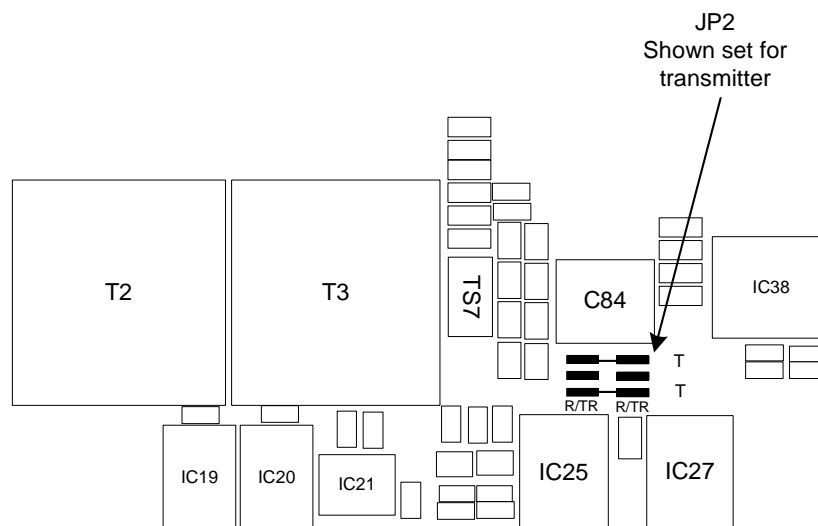

Fig 1 Processor Module JP2 Location
- (1) Place the module in position. Ensure no wires are trapped by the module. Ensure jumper J2 on the module is set to 'T' for transmitter (see Fig 1).